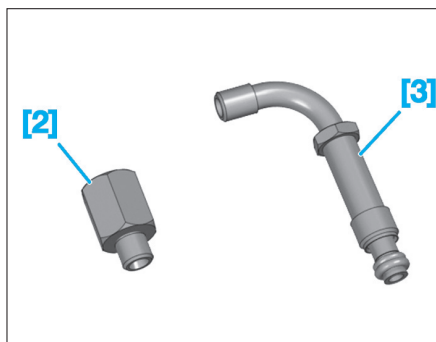

Fig. 31
- [2]. Raccord flexible haute pression (Ref. 0710-E2Z) (Fig.31).